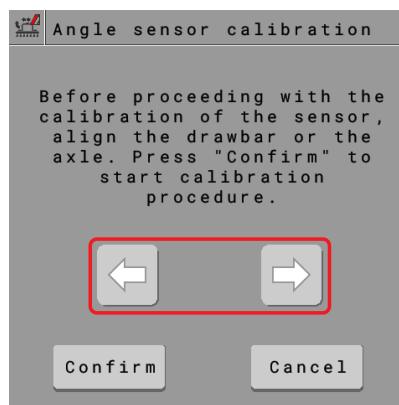

Fig. 63
- Follow the displayed instructions and press **Confirm** (Fig. 63).